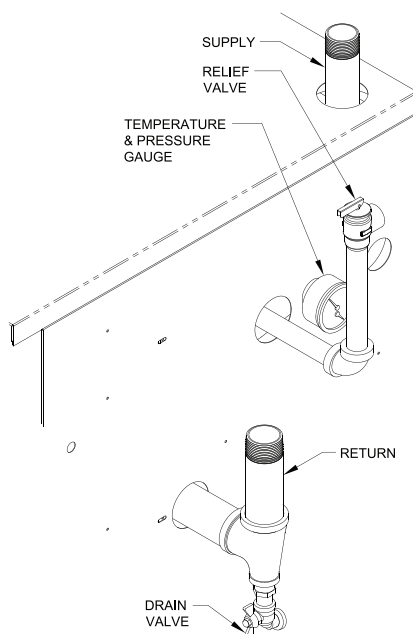

Figure 2: Near Boiler Piping
- C. Install Safety Relief Valve.** See Figure 2. Safety Relief Valve must be installed with spindle in vertical position.
- D. Connect system supply and return piping** to boiler. Refer to Figures 2, 3, 4, & 5. Maintain minimum ½ inch clearance from hot water piping to combustible materials.